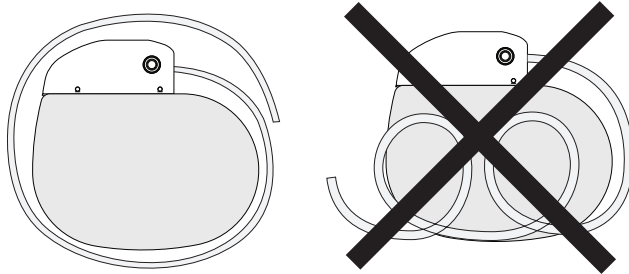

Figure 3. Wrap excess extension around the perimeter of the neurostimulator.
- Do not coil excess extension in front of the neurostimulator. Wrap excess extension or leads around the perimeter (Figure 3) or behind the neurostimulator to help minimize potential damage during neurostimulator replacement surgery, help minimize potential kinking of the extension or lead, and minimize interference with telemetry and recharge operation.